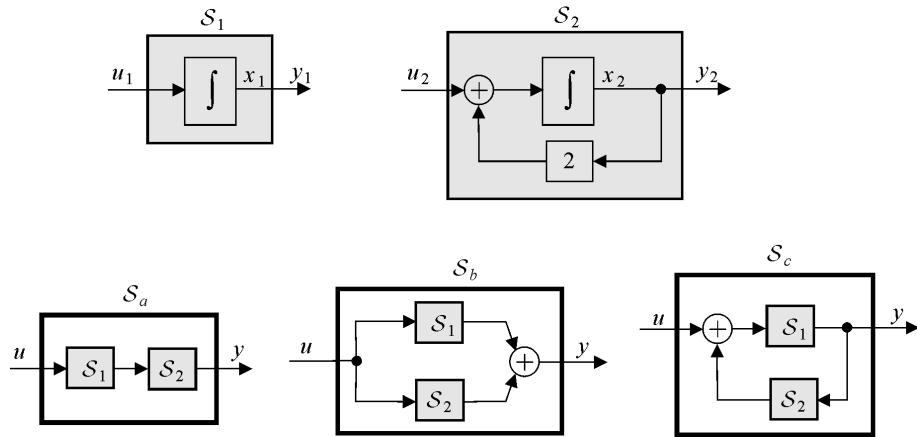

Figure 4.7: Composition of systems
Let us consider the systems \mathcal{S}_1 and \mathcal{S}_2 given on top of Figure 4.7.
- 3) Do the same with the system \mathcal{S}_c obtained by looping \mathcal{S}_1 by \mathcal{S}_2 as represented on Figure 4.7.